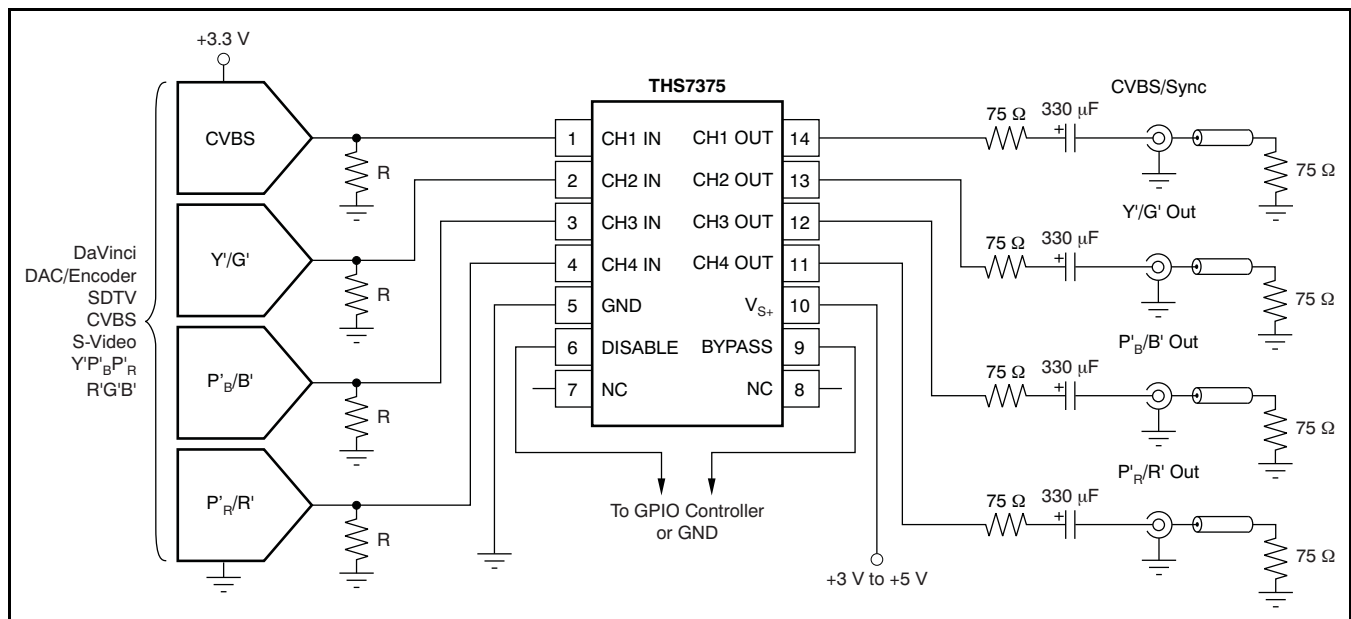

Figure 48. Typical SDTV CVBS/ $Y'P'_B P'_R$ Inputs from DC-Coupled Encoder/DAC with AC-Coupled Line Driving
A typical application circuit that uses the THS7375 as a video buffer is shown in Figure 48. It shows a DAC or encoder driving the input channels of the THS7375. One channel is a composite video (CVBS) channel of a standard definition (SD) video system. The other channels are the component video $Y'P'_B P'_R$ (sometimes labeled $Y'U'V'$ or incorrectly labeled $Y'C'_B C'_R$) signals of a 480i or 576i system. These channels could easily be the S-Video Y'/C' channels or the $R'G'B'$ channels of a SCART system.